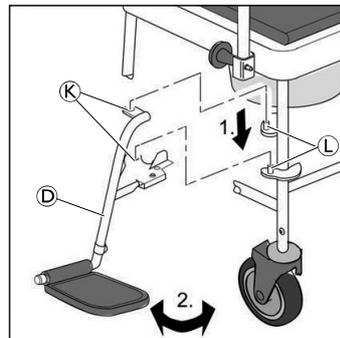

Fig. 4
- Place the footrests (D) on both sides through the holes at the sides (K) into the attachment pins (L) (Fig. 4).